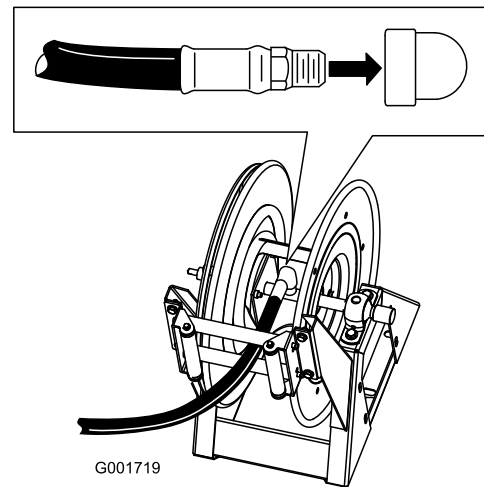

Figure 15
1. Wrap Teflon® tape around the threads of the hose fitting on the long hose, and install the fitting into the connecting tube on the reel (Figure 15).